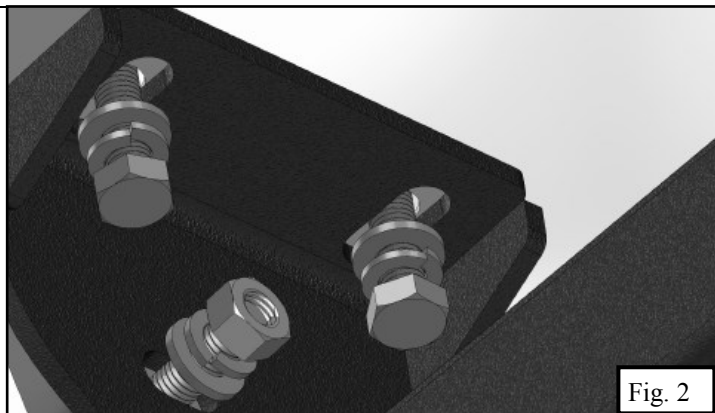

Fig. 2
3. Using the M12 hardware install the hitch as shown on Figure 2. Use Item 2 (M12 fine thread hex bolt) for top threaded holes. And Item 4 (M12 hex bolt) for side holes.